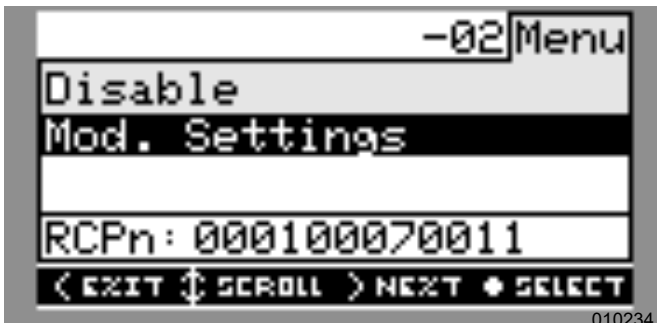

Figure 3-11. Internet Device Page
- See Figure 3-11. Highlight Mod. Settings and press the center button to select.